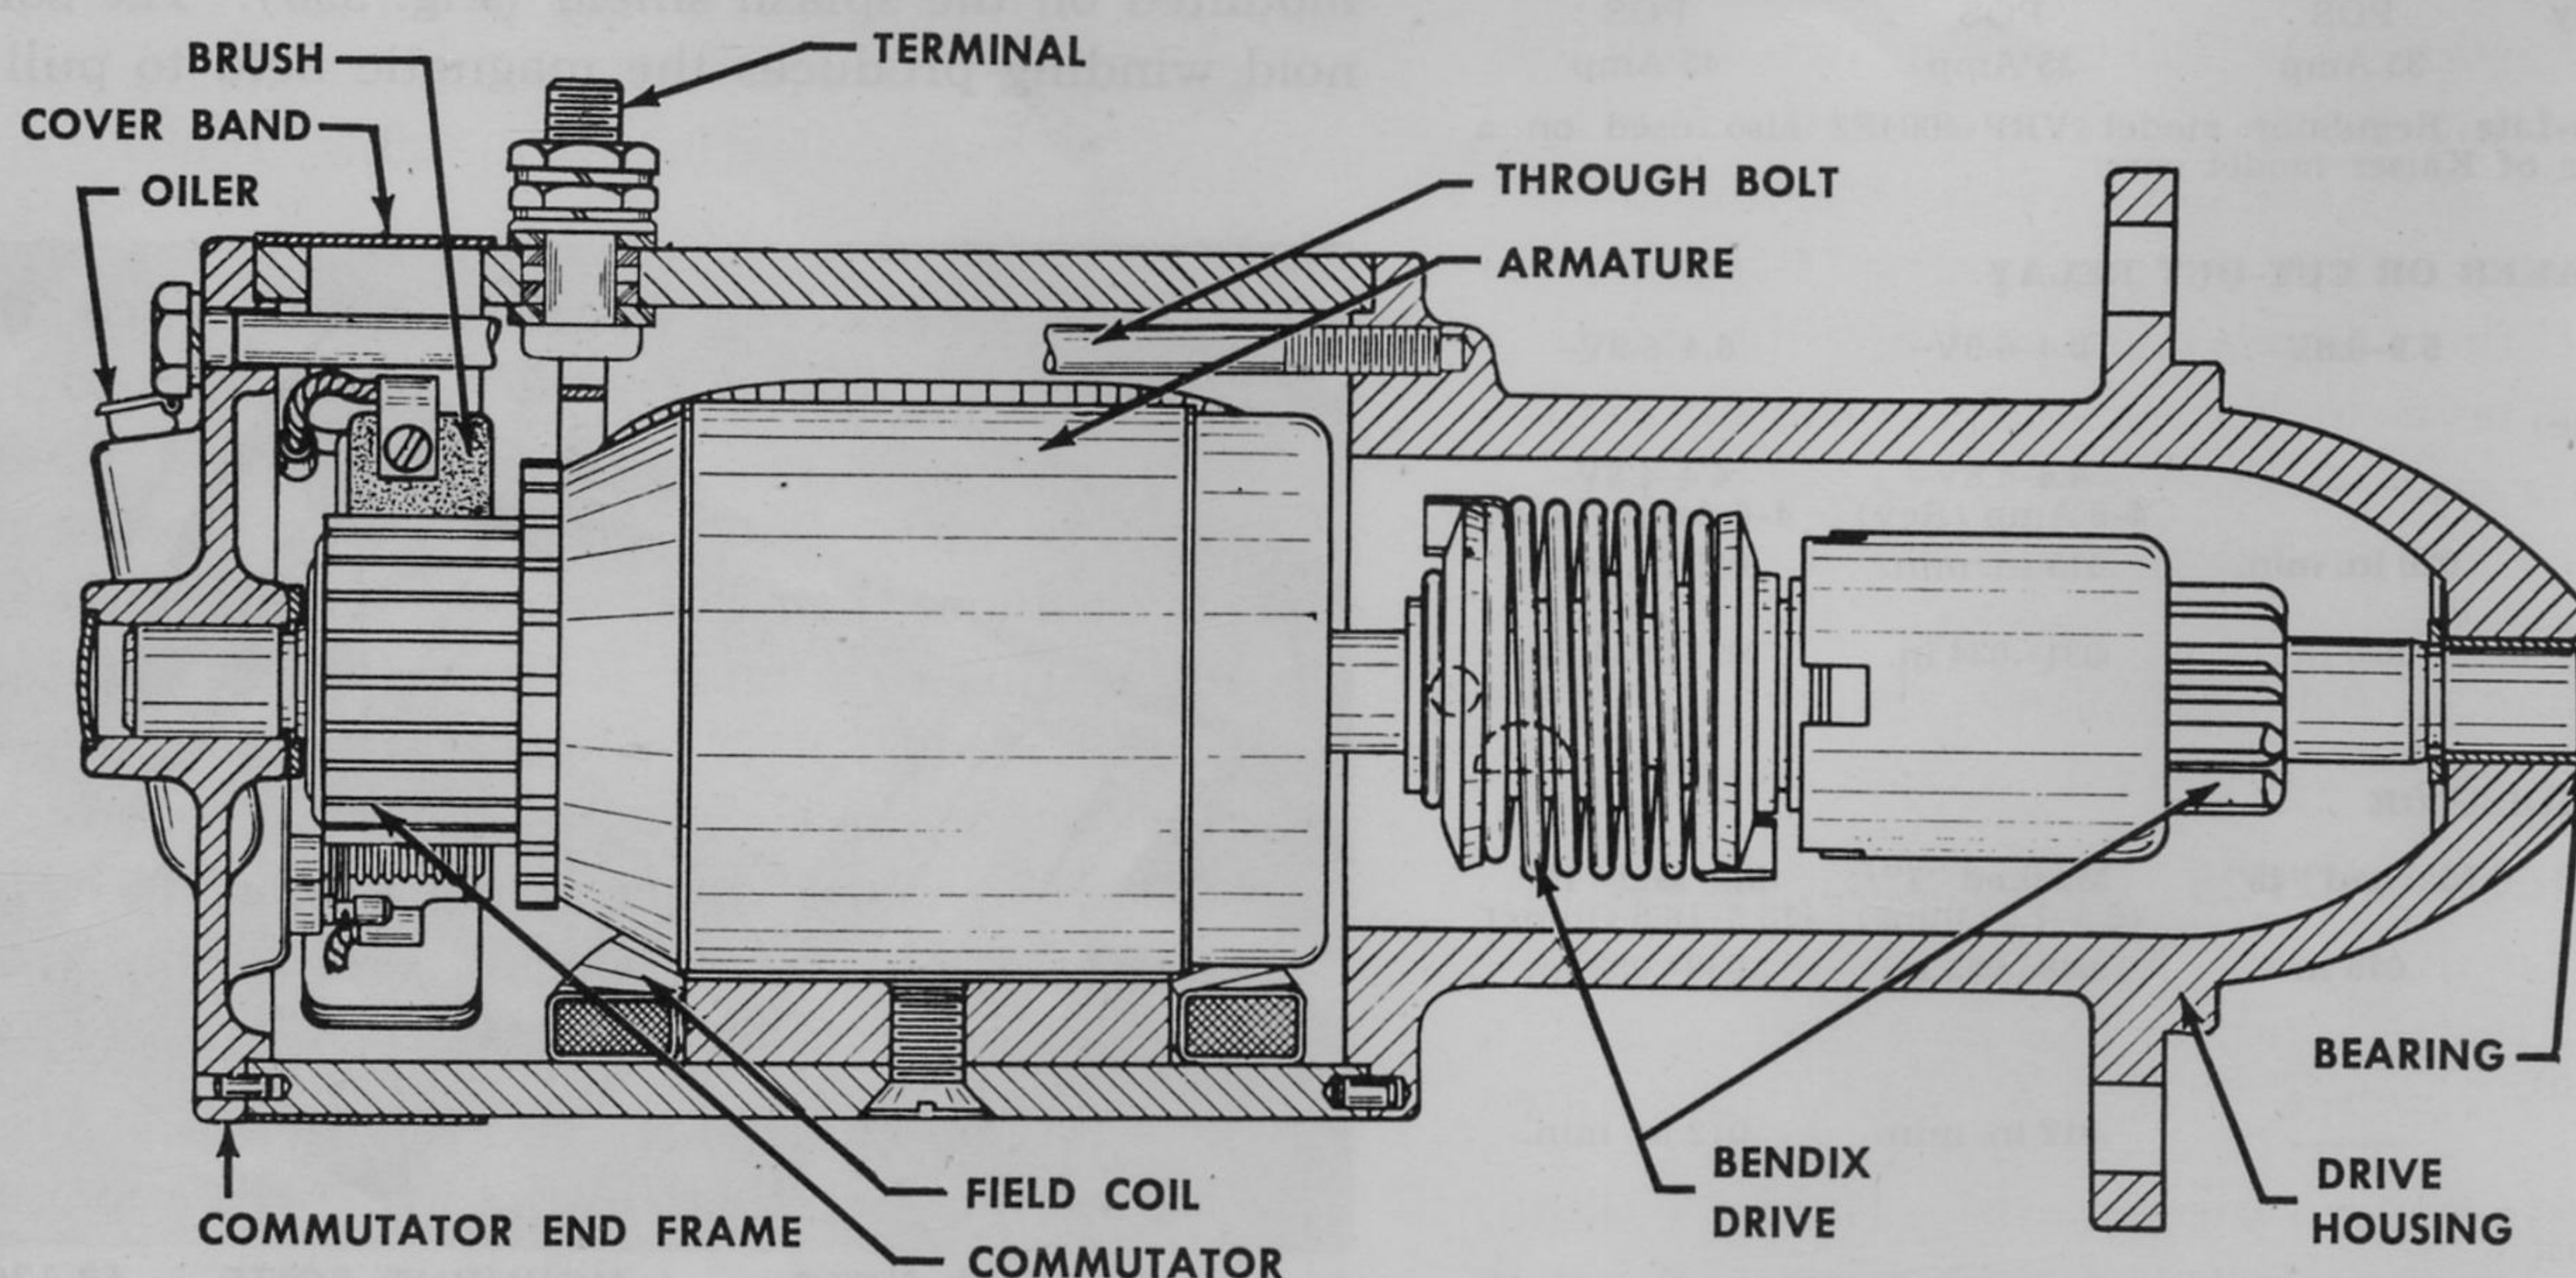
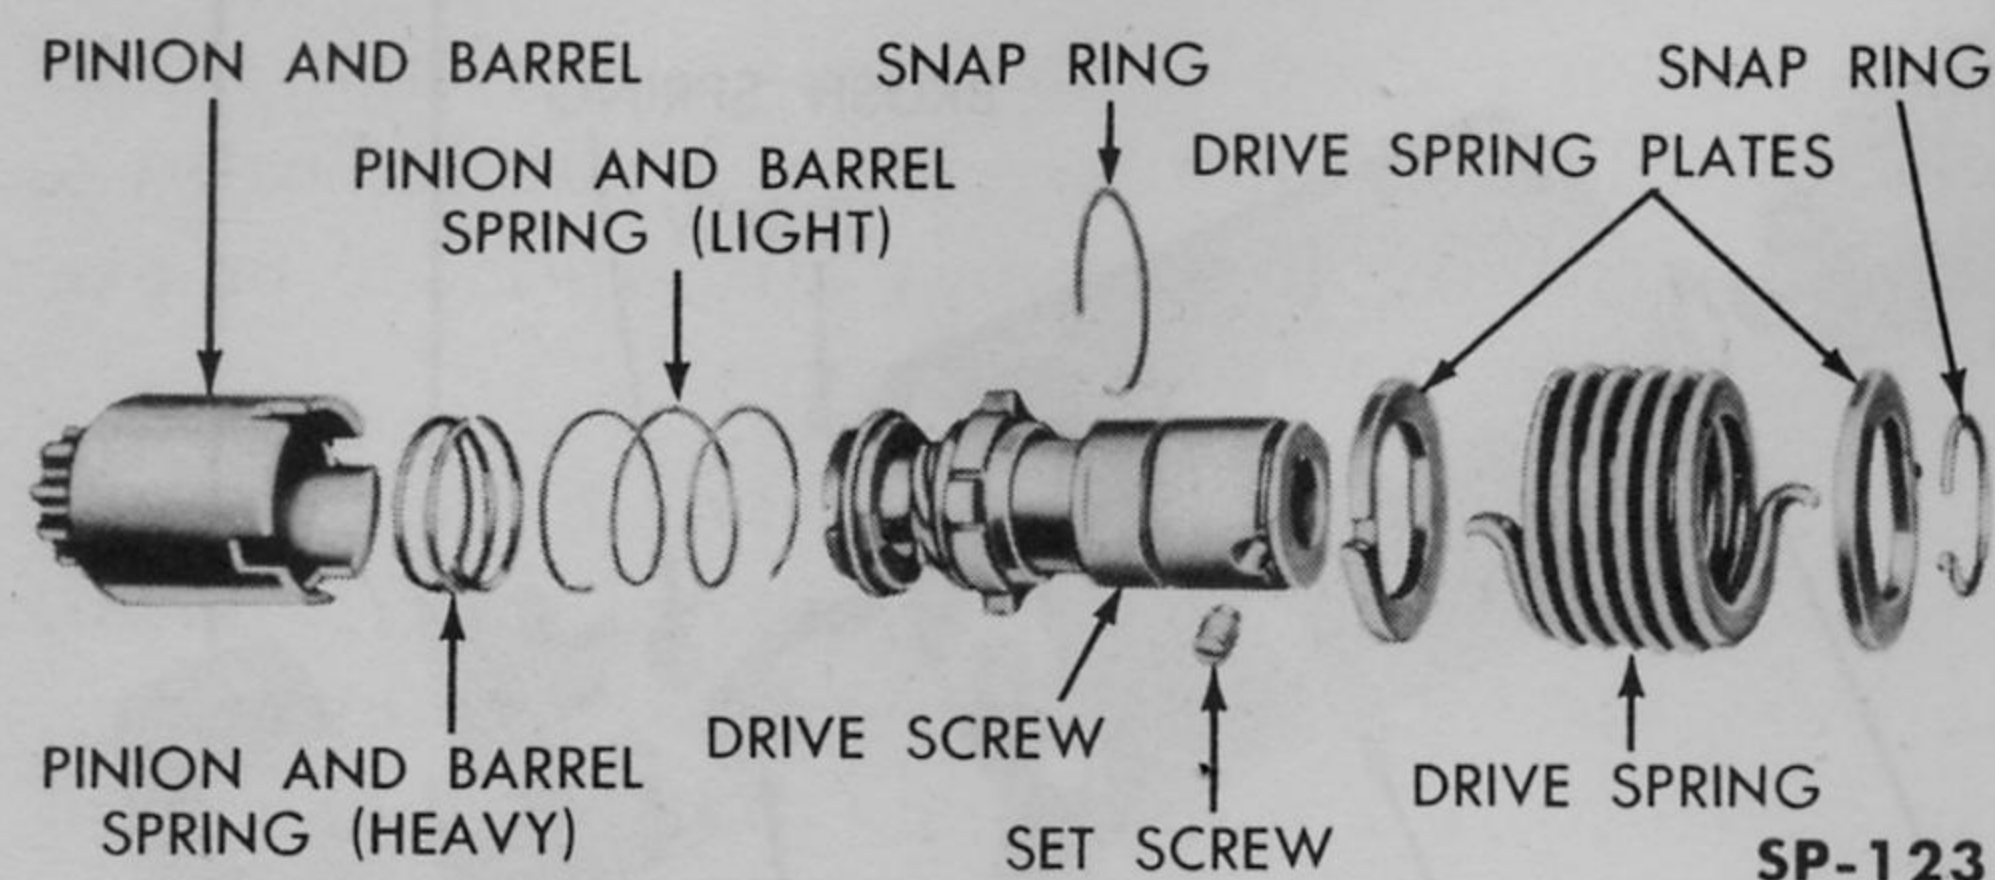
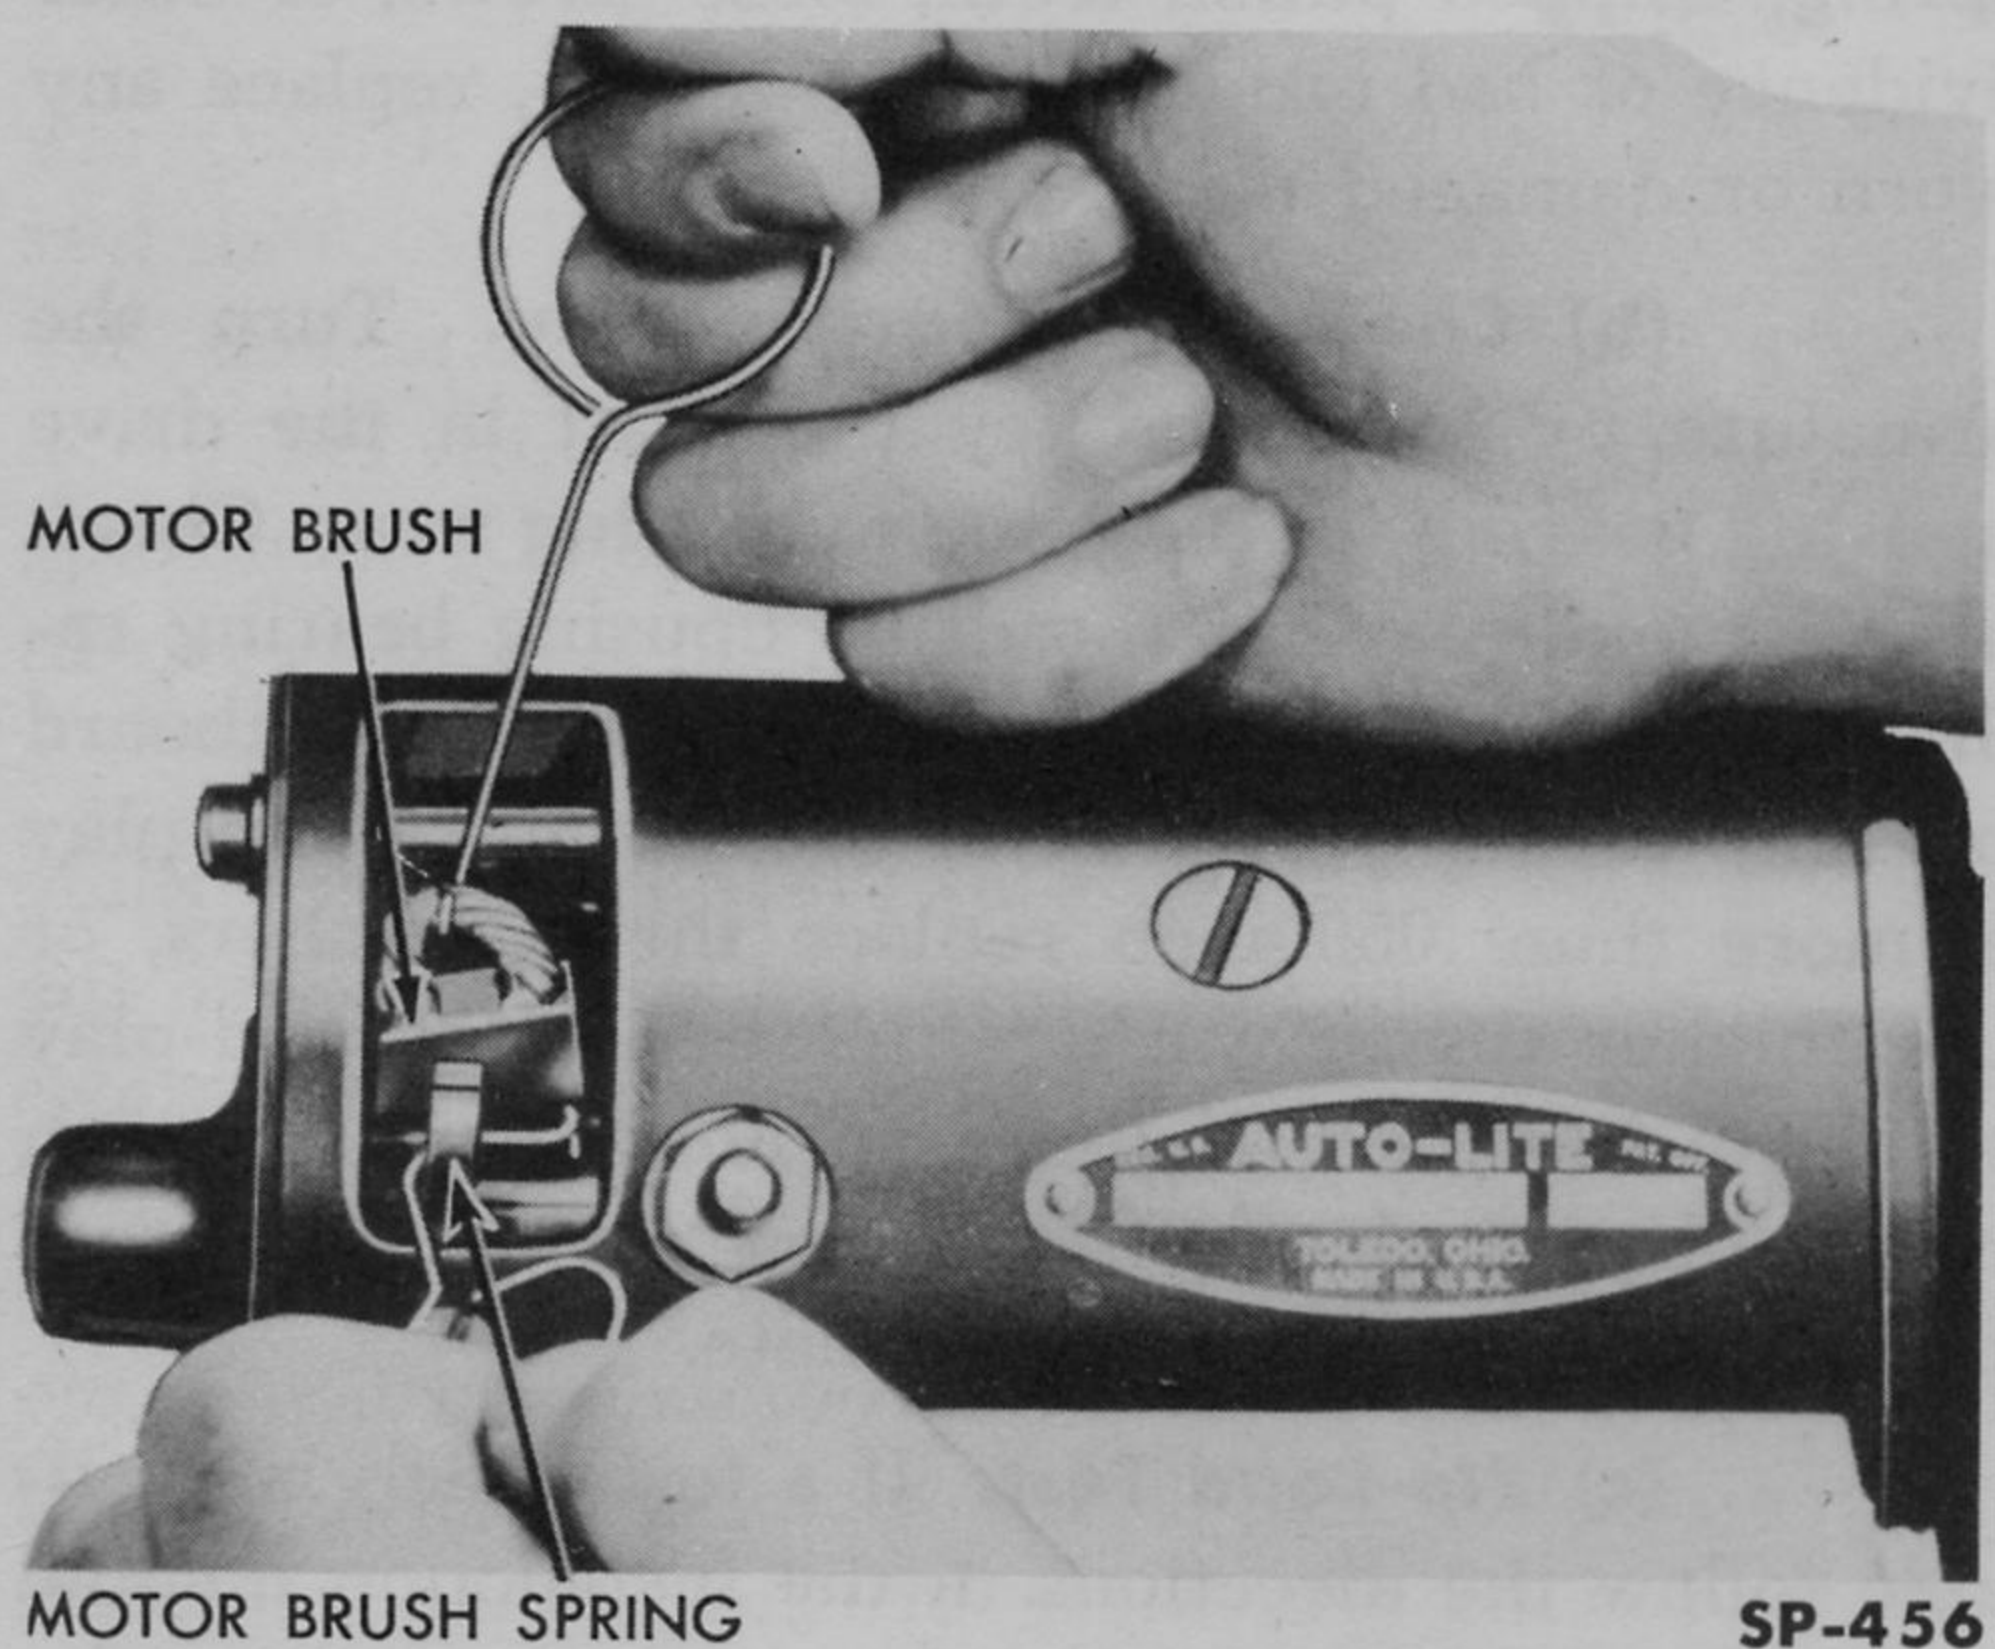

Fig. 414—Kaiser Starting Motor—Sectional View
Fig. 416—Bendix Drive Unit—Exploded View
Fig. 417—Removing Starting Motor Brushes
c. STARTING MOTOR CONSTRUCTION. The starting motors used on Kaiser and Frazer vehicles are four-brush, series wound units with Bendix pinion to mesh with the flywheel ring gear. Construction of the units is shown in Figs. 414, 415 and 416.
(a) Check Bendix Unit. Hold the armature and turn the Bendix pinion forward and backward. It should move freely on its threaded sleeve along the shaft, except for the slight resistance offered by the light anti-drift spring (Fig. 416). When the pinion reaches its stop in the most extended position, it must be locked to and driven by the armature shaft. Look for a broken or distorted drive spring, chipped pinion teeth, loose screws, or other evidence of bad order. In overhauling, replace any worn or damaged parts.
2. Starting Motor Disassembly (Fig. 414 or 415). Remove the brush cover band. With a pair of suitable small hooks, or long nose pliers, lift the brush springs from their holders (Fig. 417). Remove the brush pigtail screws or bend the brush pigtails (or the stranded wires attached to the brushes) so that they will hold the brushes out of the way. Re-
(b) Bendix Unit Overhaul (Fig. 416). Remove the drive spring plate retaining snap ring from its groove in the drive screw. Hold the drive spring compressed, with pliers, and turn the drive screw to shaft set screw down until flush. Then remove the drive inner snap ring and detach the pinion from the worm. Remove the barrel springs. Examine the pinion worm and collar. Replace worn parts. Do not attempt to disassemble the drive screw assembly. Clean all parts with suitable cleaning fluid.
To assemble, put the pinion and barrel and springs back on the drive screw in the order shown in Fig. 416, and fasten them in place with the snap ring. Turn the set screw down in the drive screw until its head is flush. Assemble a driving spring
bly, but in reverse order. Slide the center bearing into place on the armature shaft (Fig. 414 or 415) and insert the woodruff key. Then, with the set screw (Fig. 416) backed out, slide the Bendix drive unit assembly into place on the shaft and tighten the set screw. Slide the housing in place, noting the locating dowel.